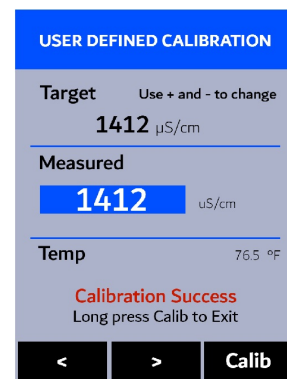

Figure 20.
11. The message “**Calibration Success**” will appear towards the bottom of the display (Figure 20).